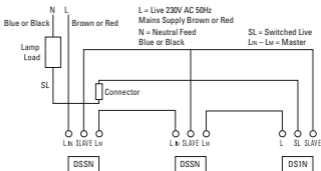

**Fig 5 – Strapping Cable & One Intermediate Switch**
- This involves wire identification and tracing. Switch installation should be left to a competent electrician who will be able to relate to the circuit diagrams shown in figures 5 to 12 to the practical installation.
- There are two main ways of achieving 2 way switching – Strapping Cable and Remote Live Access. The circuits for these are shown in figs 5 and 6. They are shown with a single intermediate switch giving 3 way switching. Further intermediate switches can be added.